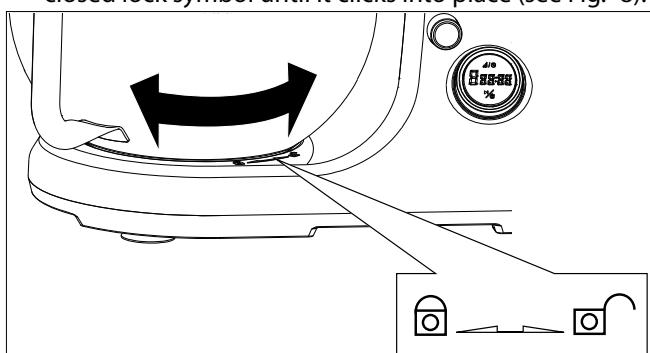

Fig. 8 – Inserting and locking the mixing bowl
- ▶ Turn the mixing bowl as far as it will go towards the closed lock symbol until it clicks into place (see Fig. 8).